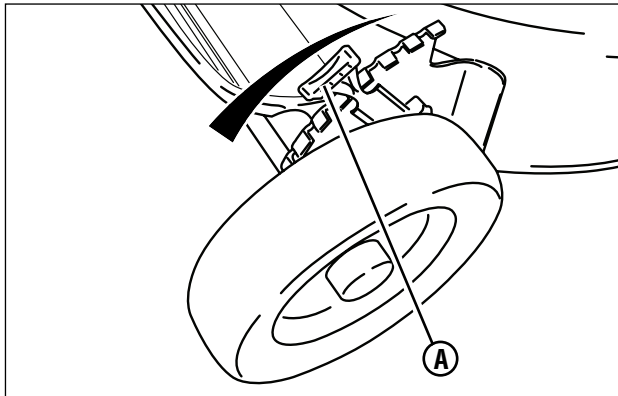

Figure 7: Adjusting cutting height
1. Pull the height adjusting latch (**A**, **Figure 7**) outward and move to the desired cutting height.